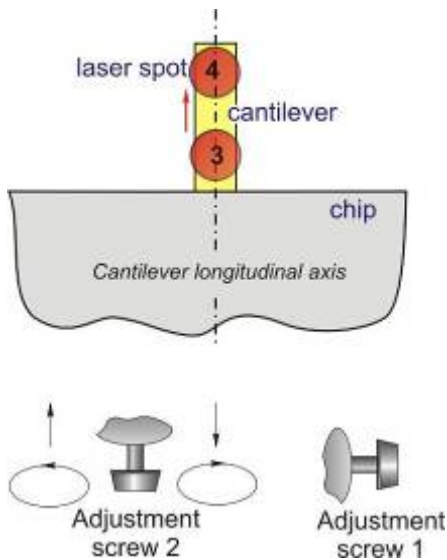
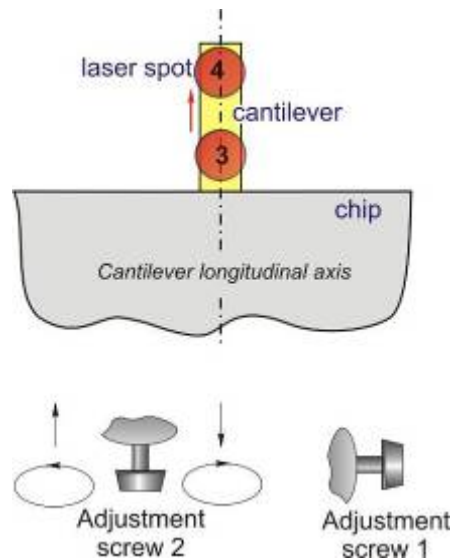

Fig. 2-50
Fig. 2-51
As soon as the spot is positioned on the cantilever longitudinal axis (position 3, Fig. 2-50, Fig. 2-51), it should be moved to the cantilever end (position 4) using adjustment screw 2.
- Once the laser spot is positioned on the rectangular cantilever longitudinal axis (Fig. 2-50), the laser image on the screen looks like that shown in Fig. 2-52 regardless of the spot location on the cantilever. Therefore, the image shown in Fig. 2-52 as an example, only indicates that the beam has been centered on the cantilever in the transverse direction;
- Next, turning screw 2 counterclockwise, the spot should be moved towards the cantilever end as shown in Fig. 2-50;
- As in case of rectangular cantilever, the spot should be moved along the longitudinal axis towards the cantilever end rotating adjustment screw 2 counterclockwise (this is shown schematically in Fig. 2-51);